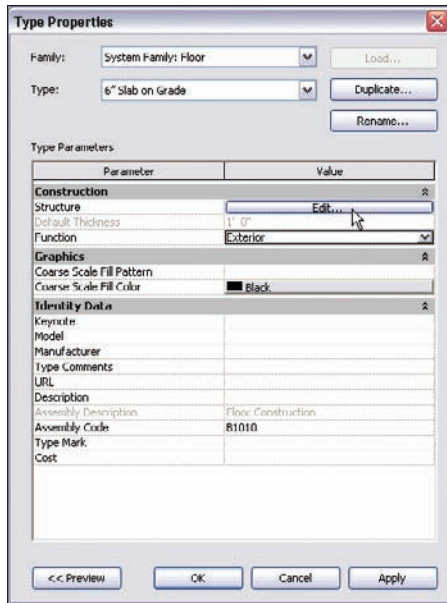

FIGURE 6.5 Clicking the Edit button to access the structure of the floor
9. Change Function to Exterior, as shown in Figure 6.5.
10. In the Structure row, there is a long Edit button, as shown in Figure 6.5. Click it.